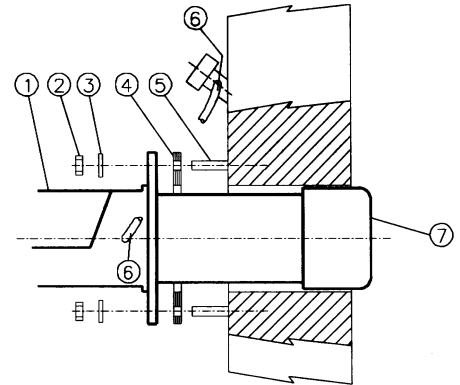

Fig. 6
- 4 fix the burner to the stud bolts, by means of the fixing nuts, according to Fig. 6.